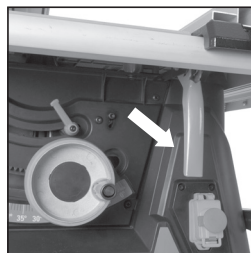

FIG. 26
- Pull up the table extension locking lever found just above the machines **ON/OFF** switch. **(Fig. 26)**